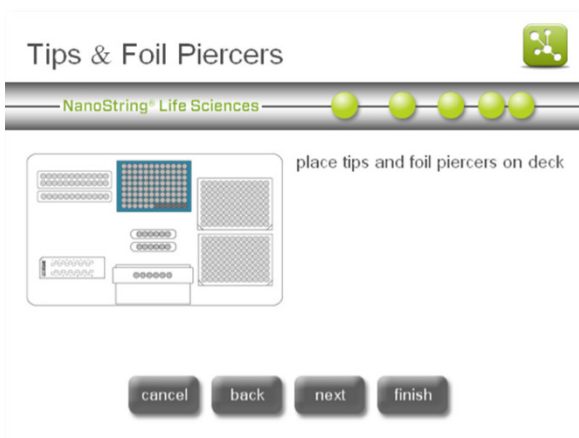
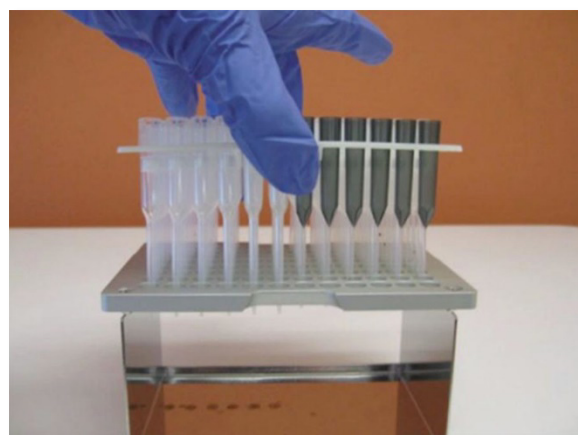

Figure 21: The 'Tips & Foil Piercers' screen.
Figure 22: Placing the tips and foil piercers into metal tip carrier.
8. The 'Tips & Foil Piercers' screen will appear (**Figure 21**). Remove the metal tip carrier from the Prep Station deck by lifting straight up. Place the tips and the foil piercers into the carrier. It is helpful to place the carrier at eye level to align the plastic tips in the carrier as shown in **Figure 22**. The shorter, dark grey foil piercers should be in the front as shown.